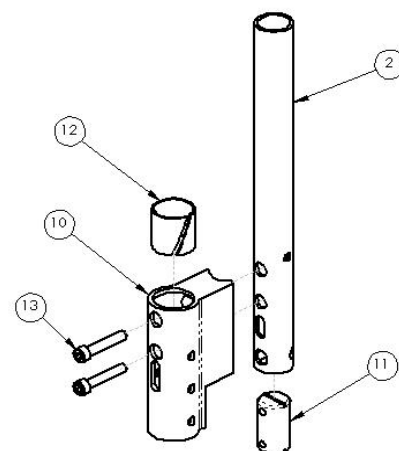

FIGURE 2
2. If you have a tubular swing away armrest, remove the receiver from the existing backrest by removing plastic sleeve (item 12) and removing mounting screws (item 13) Figure 2. Discard item 12.